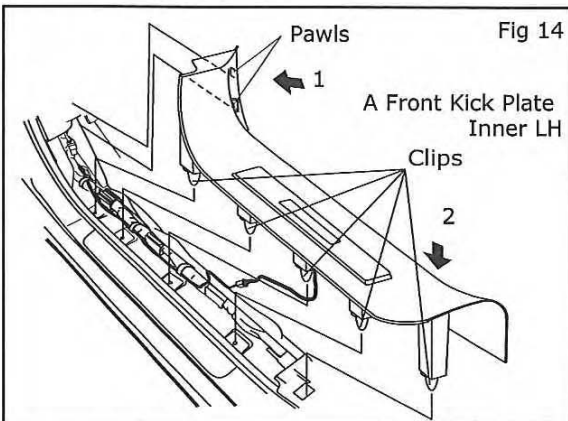

Fig 14
- 1) Reinstall dashboard side lower panel (2).
- 2) Install front kick plate inner (A) in correct position starting from front end. Shown in Fig 14.